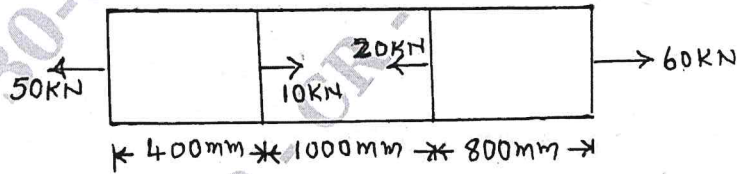

Fig.Q.1(c)
- c. A bar of uniform cross-section 20mm diameter is subjected to a load as shown in Fig.Q.1(c). Find the total elongation of the bar and maximum stress in the bar. Given $E = 200\text{GPa}$. (10 Marks)